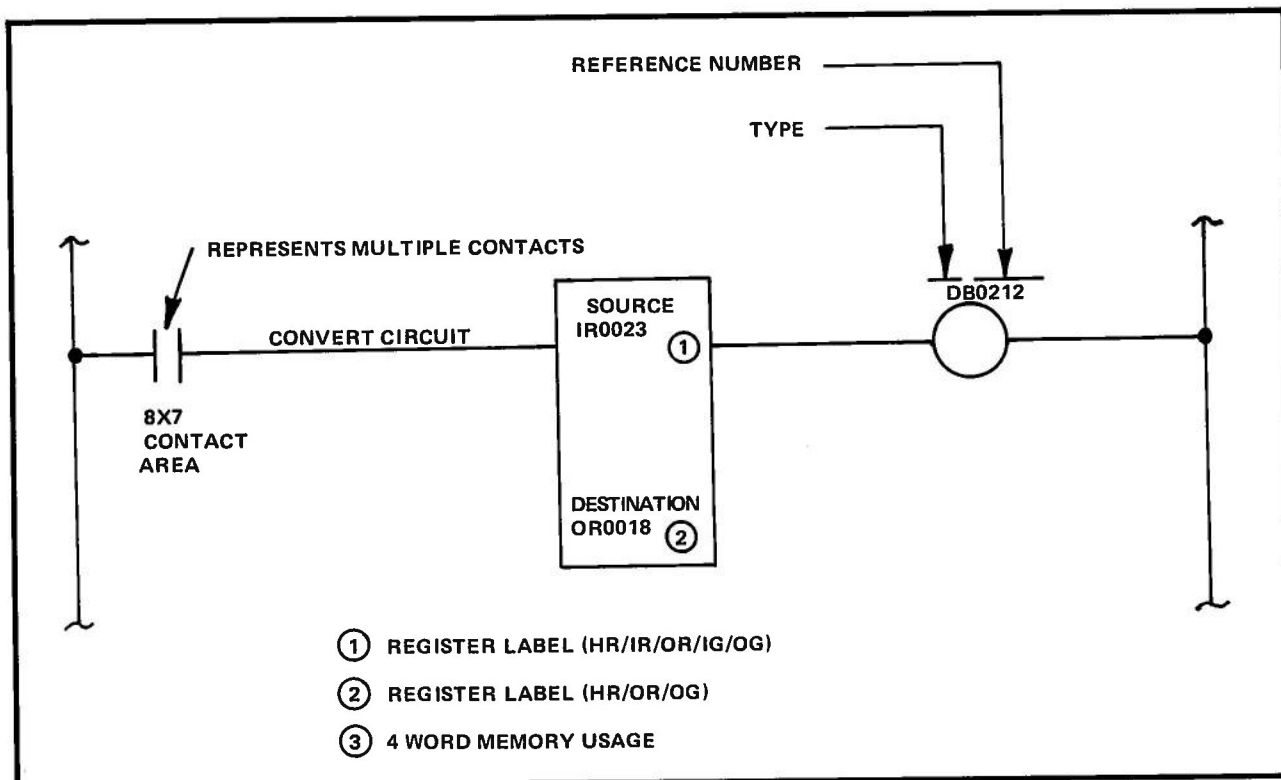

Figure 1. Binary to Decimal (BD)/Decimal to Binary (DB)
The Binary to Decimal (BD) function converts binary bits to Binary-Coded-Decimal (BCD) digits; the Decimal to Binary (DB) function converts BCD digits to a binary number. BD/DB function symbology is shown in Figure 1.